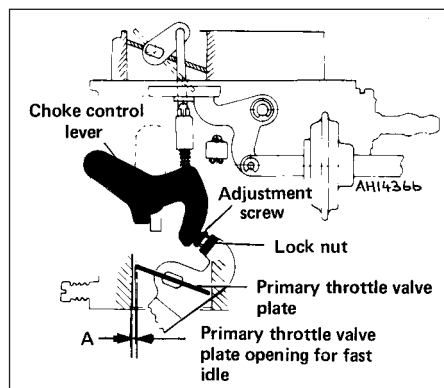

Fig. 3.25 Fast idle adjustment diagram (Weber 30/32 DMTR 90/250) (Sec 14)
7 Close the choke valve plate fully and check the gap (A) (Fig. 3.25) between the edge of the throttle valve plate and the carburettor throat. The gap should be between 0.90 and 0.95 mm (0.035 and 0.037 in), a twist drill is useful for measuring this.